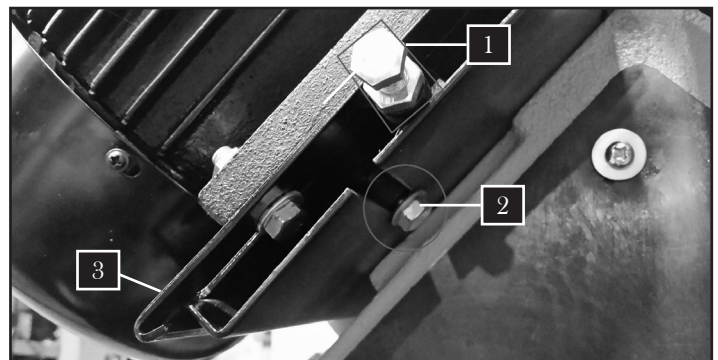

Fig. 9
1. Loosen the motor lock screw on the rightmost side of the machine (Fig. 9 - 1). Loosen the motor slide screw (Fig. 9 - 2) underneath the motor plate enough to permit the motor to slide.
2. Slide the motor plate (Fig. 9 - 3) to reduce belt tension and enable belt changing. You may need to tap the plate with a rubber mallet.